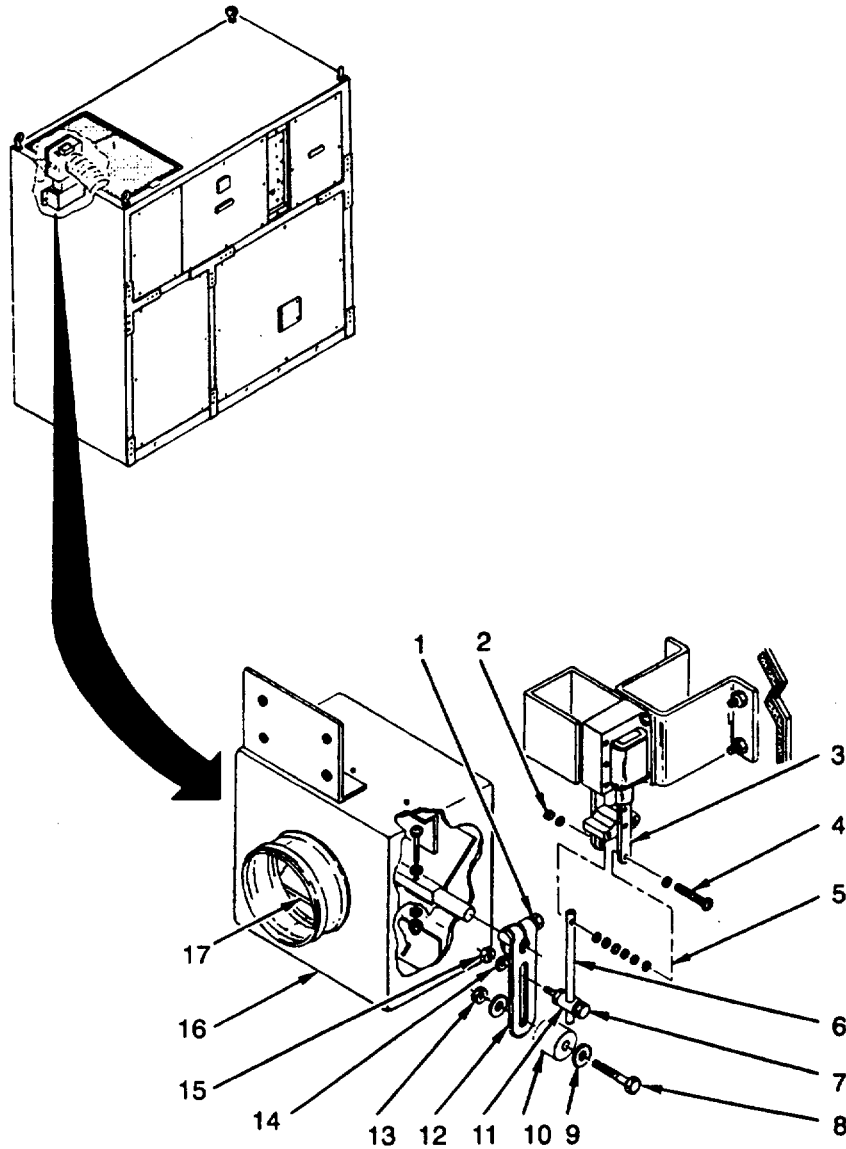

Figure 4-37. Fresh Air Connecting Link
1. Check that connecting link rod (6) is not bent or damaged (see Figure 4-37).
2. Check that connector swivel (11), damper operator (12), and counter weight (10) are not damaged.